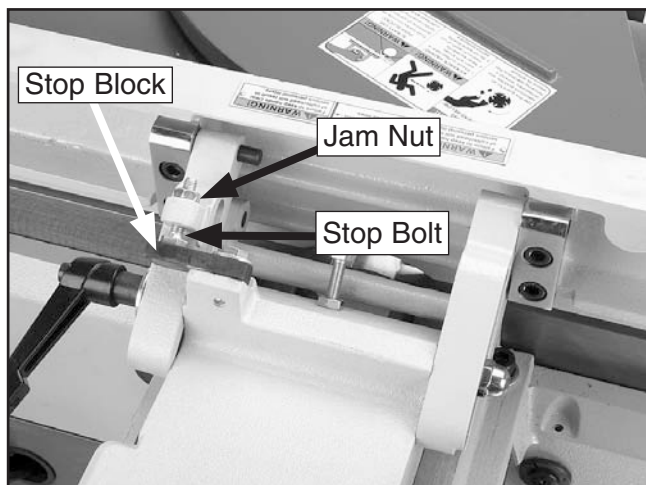

Figure 62. Adjusting fence to 90°.
1. Lower the stop block against the fence, as shown in **Figure 62**, and loosen the fence tilt lock.
—If it is not set at exactly 90°, loosen the jam nut and adjust the stop bolt until the fence is exactly 90° as shown in **Figure 62**.